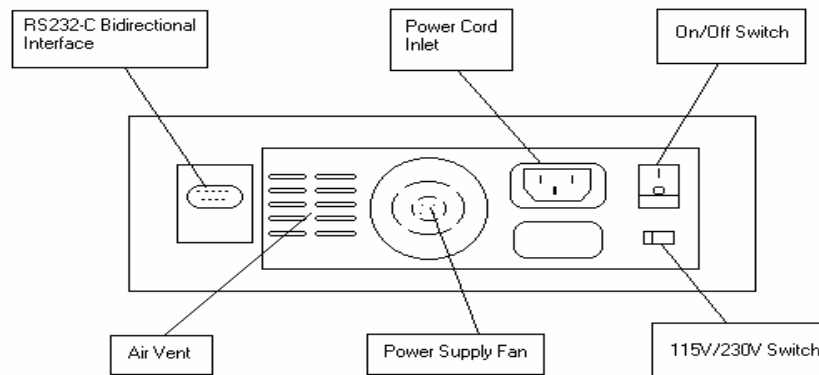

Figure-2 Back of **UNICO® 2100 and 2100UV**
4. Select either **230V** or **125V/115V** on the voltage selector switch on the back of the **2100** and **2100UV** shown in Figure-2, to match your local main voltage supply.